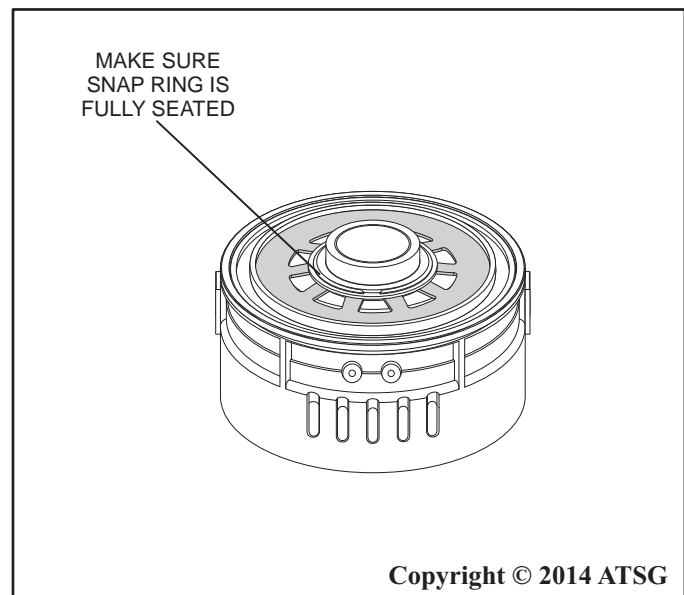

Figure 114
9. Make sure the retaining snap ring is fully seated as shown in Figure 114. Then set the intermediate and low/reverse clutch support housing aside for final assembly.